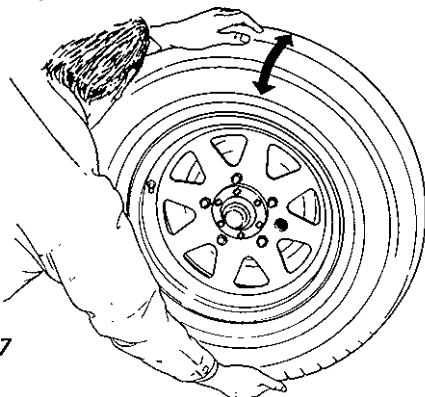

Fig. 17-37
- 2) And then shake the wheel in the direction given by an arrow in Fig. 17-37 to see if the bearing rattles.